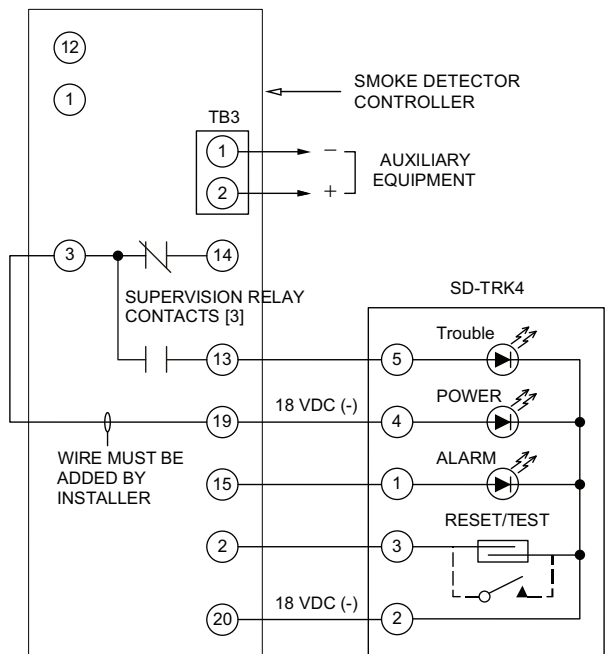

Fig. 43 — Remote Test/Reset Station Connections
The test/reset station dirty sensor test checks the test/reset station’s ability to initiate a sensor dirty test and indicate the results. It must be wired to the controller as shown in Fig. 43 and configured to operate the controller’s supervision relay. For more information, see “Changing sensor dirty test operation.”
1. Verify that the remote test/station is wired as shown in Fig. 43. Repair or replace loose or missing wiring.